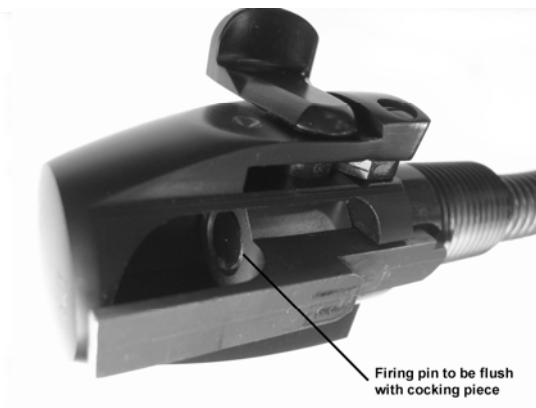

Fig 8
3. Examine the bolt sleeve assembly to assure that the rear end of the firing pin is flush with the rear end of the cocking piece. (*refer to Fig 8*)